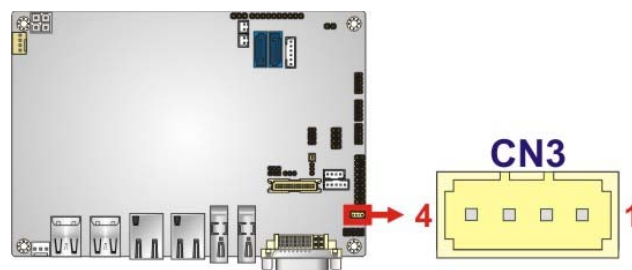

Figure 3-18: SMBus Connector Location
- CN Location:** See **Figure 3-18**